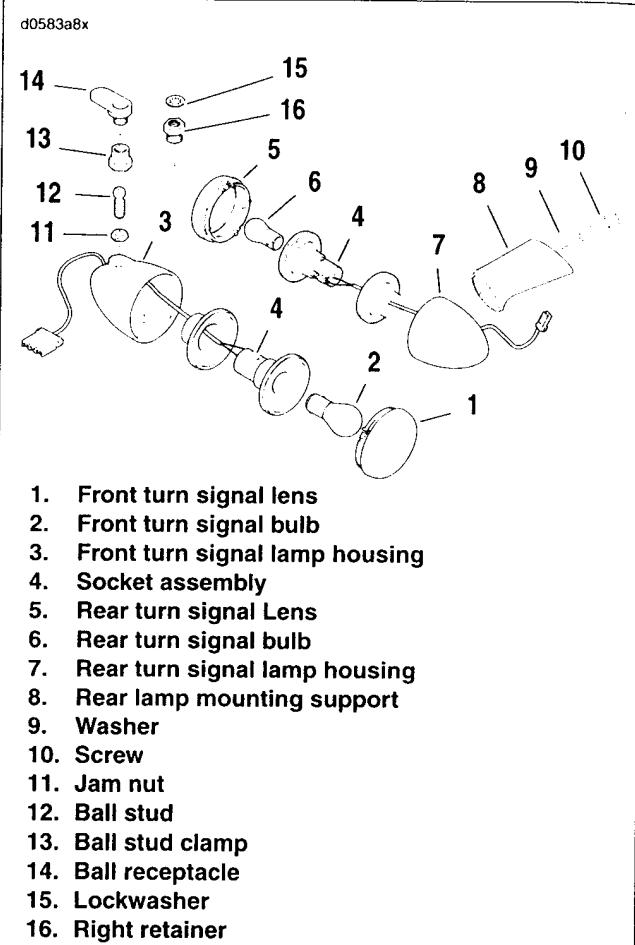

Figure 8-41. FXD, FXDX, FXDL, FXDWG Turn Signals
- Front turn signals: see Figure 8-41. On right side, hold right retainer (16) and loosen ball stud clamp (13) to remove turn signal. On left side, remove acorn nut from mirror, loosen jam nut (11) and remove ball stud clamp (13) to detach turn signal.
- Rear turn signals: Remove the lamp support (8) by removing the screw (10) and washer (9) inside the rear fender, then the lamp housing (7) can be removed from the support (8).